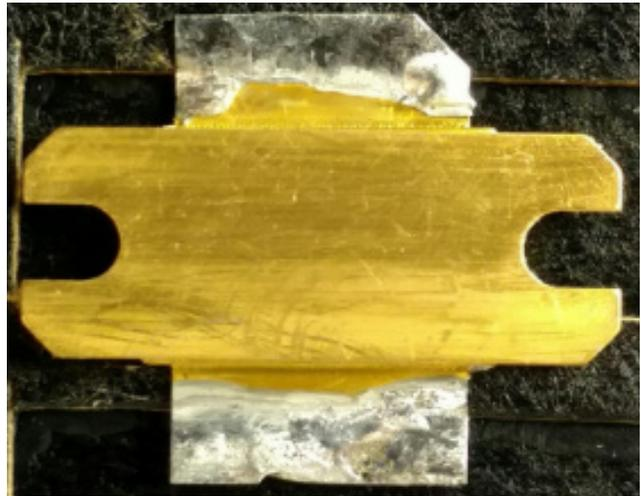

FIGURE 1: Example of a transistor with poor lead tinning coverage.
- A fixture is required for tinning to hold the transistors and achieve the correct lead coverage, as well as protect the flange from solder splashes. Tinning is often performed on the top and bottom of the transistor leads with a soldering iron. The tip temperature should be < 350 °C for Sn63 solder. It is desirable to pre-heat the transistor to about 60 °C to minimize the time above reflow and reduce the heat required from the iron. It also helps the entire lead to reflow. The tinning on the bottom of the lead should cover up to within 0.020" of the ring frame. The height of the solder should be kept to less than 0.002" on the bottom of the lead to prevent mechanical interference when inserting the transistor into the well. Figure 1 shows an example of a poorly tinned transistor lead. The distance from the lead-frame to the tinning is too great and inconsistent. A large distance will place a series inductance between the transistor and the PCB matching circuit, and this inductance will cause the incorrect impedance to be presented to the transistor.